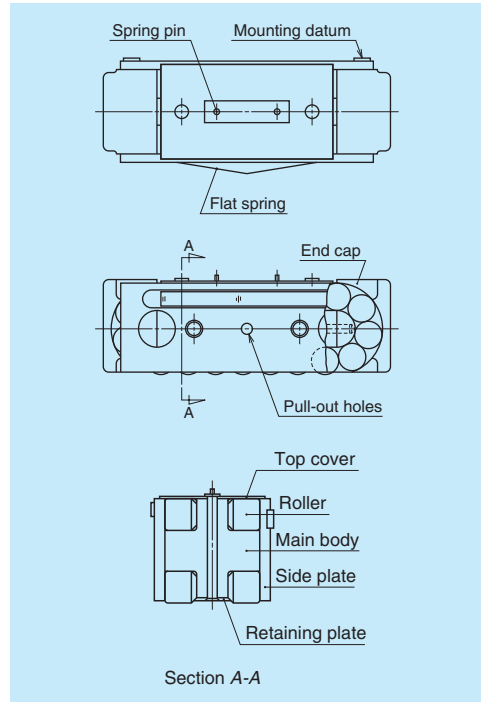

Fig. 1 Roller pack
A roller pack comprises a main body which supports load from the guide way block via two rows of rollers; an end cap which changes the direction of the re-circulation of rollers at the end of the main body; a side plate which guides the rollers (**Fig. 1**). Roller pack is one of the linear rolling guides, where rollers are allowed to re-circulate infinitely.
- In case of heavy load, the roller pack could not be pulled out by the above method. Hook a tool to the pull-out hole (Fig. 1) on the side plate of the roller pack, and pull out the roller pack.